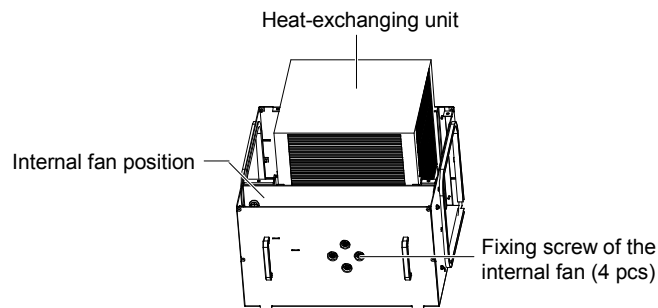

Figure 5-6 Removing the internal fan and heat-exchanging unit
Step 4: Loosen the fixing screws of the internal fan shown in Figure 5-6. Adjust the internal fan position or replace it with a new fan. Take out the heat-exchanging unit to clean it if there is much dust on it.